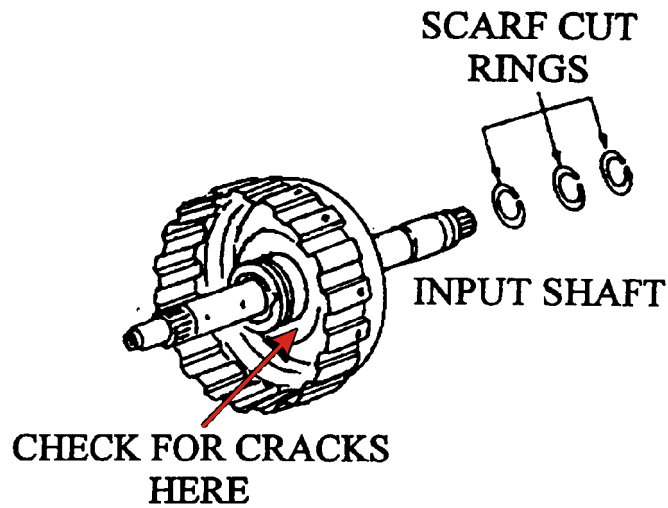

Figure 2
NO. (2) - It has also been found that the direct drum is prone to cracking in the area around the inside diameter of the drum where the input shaft is attached to the drum, and is sometimes difficult to see visually (See Figure 2).
NO. (2) - If when checking the "D" ring for "Drag" as explained above, you determine the "D" ring DOES have sufficient "Drag", then a close inspection of the direct drum for cracks, in the area shown in Figure 2, is MANDATORY. Replace the direct drum as necessary.
NOTE: ATSG has found that the Chrysler A04/413 scarf-cut Teflon seal rings provide much better sealing of direct clutch oil, when they are used on the input shaft in this unit (See Figure 2).